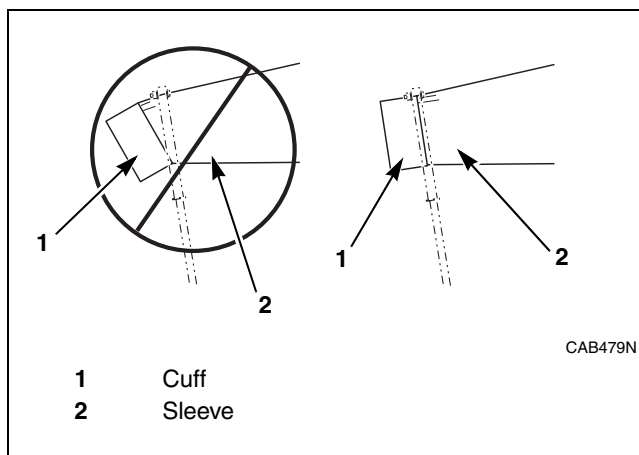

Figure 12
**NOTE: Do NOT leave gap between cuff and clamp when loading sleeve. The area of the sleeve below clamp will NOT finish properly. Refer to *Figure 12*.**